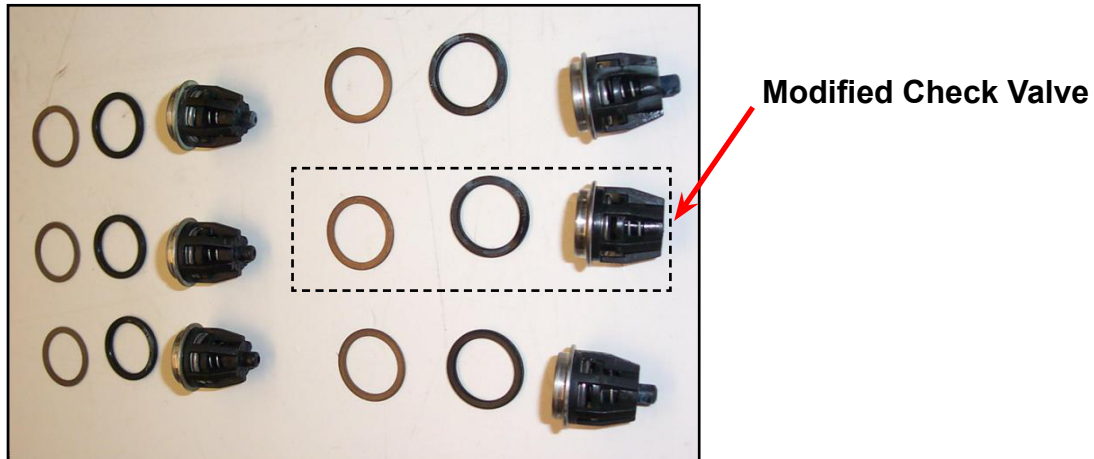

Figure 3. Replace Center Inlet Check Valve With Modified Check Valve
7. Replace the center inlet check valve with a modified check valve (Figure 3).